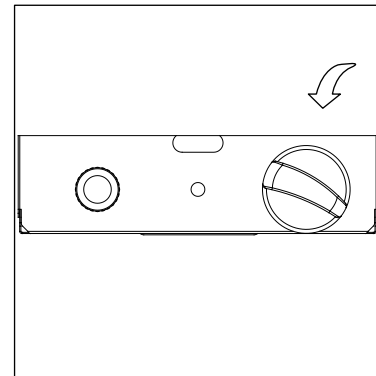

Figure 5
8. Push in and turn the control knob to the “HIGH”, then release control knob. If you want a lower temperature, push in the control knob and turn counterclockwise to the “LOW” (Figure 5).